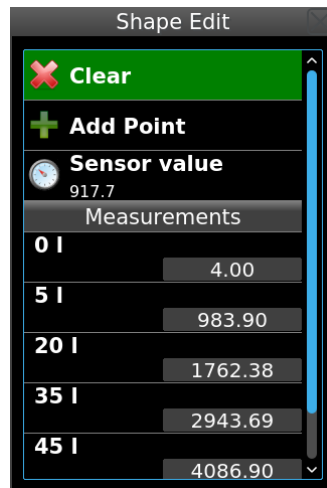

Figure 39: User specific shape with some points already added.
2. Select **Edit** in order to open the user tank shape window. Figure 39 shows an example of such window, where a few points were already added into the shape.